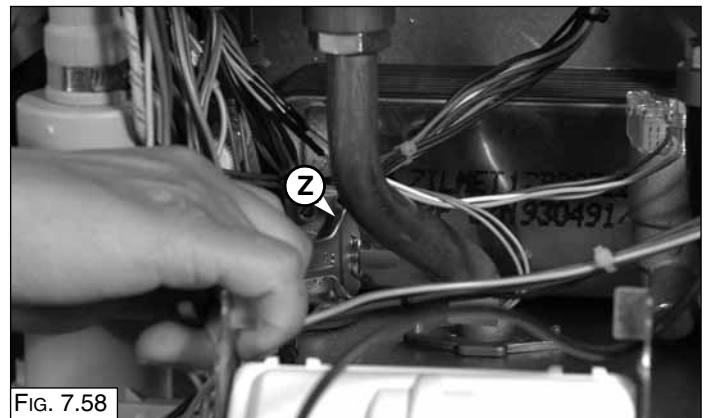

FIG. 7.58
1. Remove the electrical connector by pulling off and loosening the nut "Z" (FIG. 7.58);